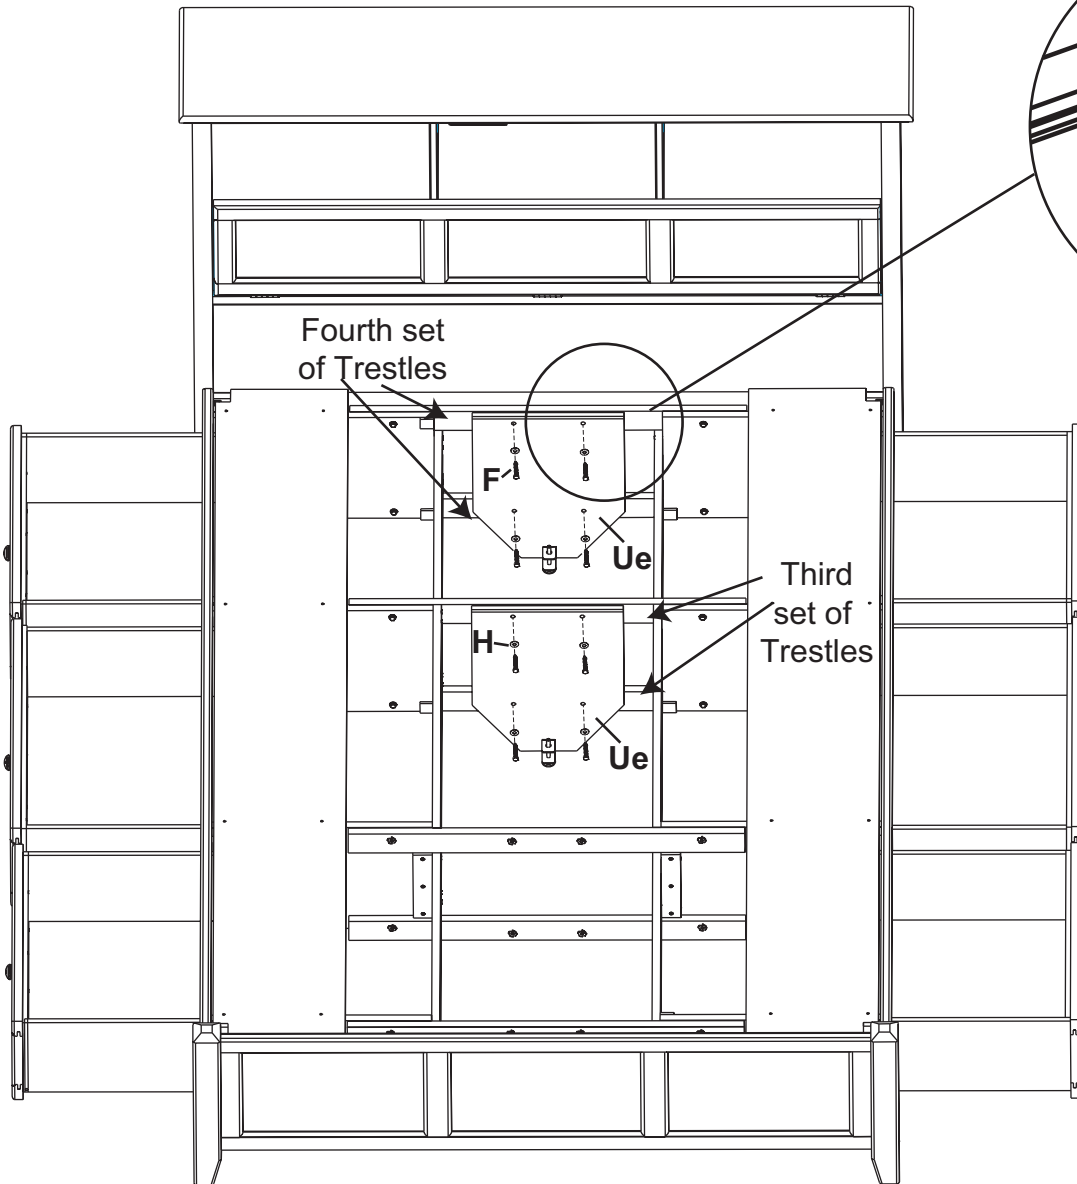

Fig. 8
8. Facing the Headboard, place two Foot Assemblies (Ue) on the *inside* faces of the third and fourth upper and lower Trestles. Attach with Washers (H) and 1/4" x 1-3/4" Hex Bolts (F). See Figures 8 and 8a.